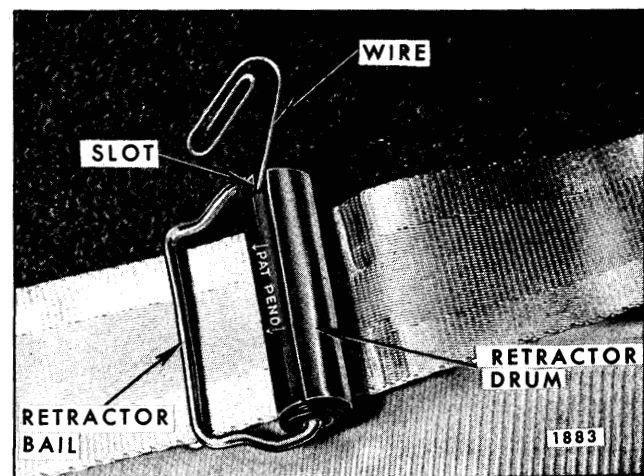

Fig. 10-80—Locking Seat Belt Bail Type Retractor Drum
2. Insert a piece of stiff wire such as a paper clip in slot in roller drum to maintain spring tension of retractor. (See Fig. 10-80).